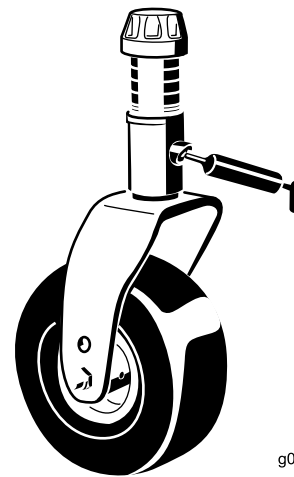

Figure 22
Castor wheel shaft (2) (Figure 22)